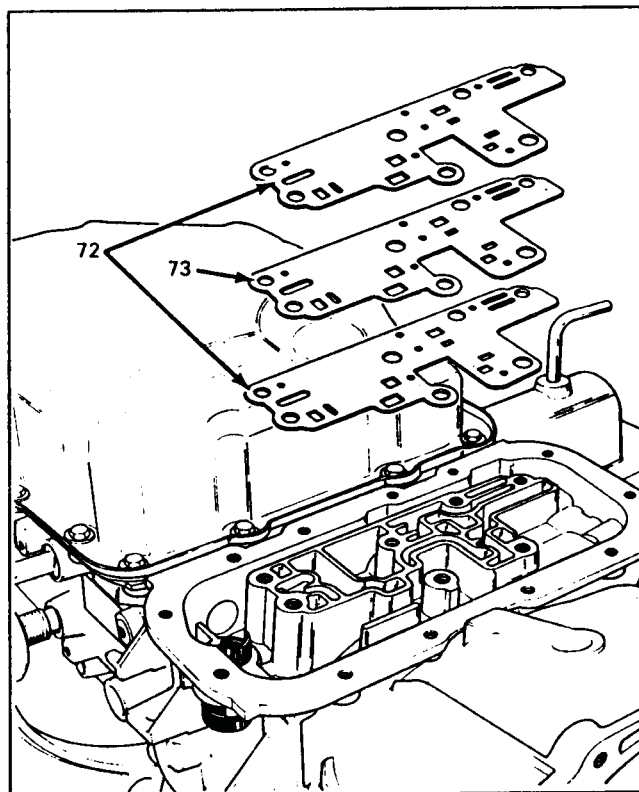

Figure 136
2. Install the adapter case valve body gaskets and spacer plate as shown in Figure 136.